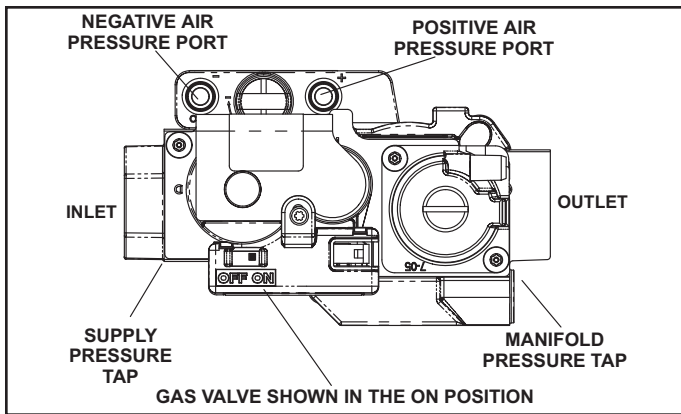

Figure 57. Gas Valve
See Figure 57
6. Move the gas valve switch to the OFF position. See Figure 57.
8. Move gas valve switch to the ON position. See Figure 57. DO Not force.